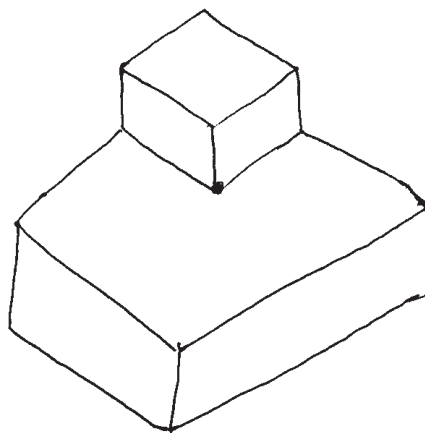

Figure 2: Trihedral Object for Q.No. 5 (b)
b) Apply Waltz algorithm for labelling the trihedral object shown in Figure 2. [8]